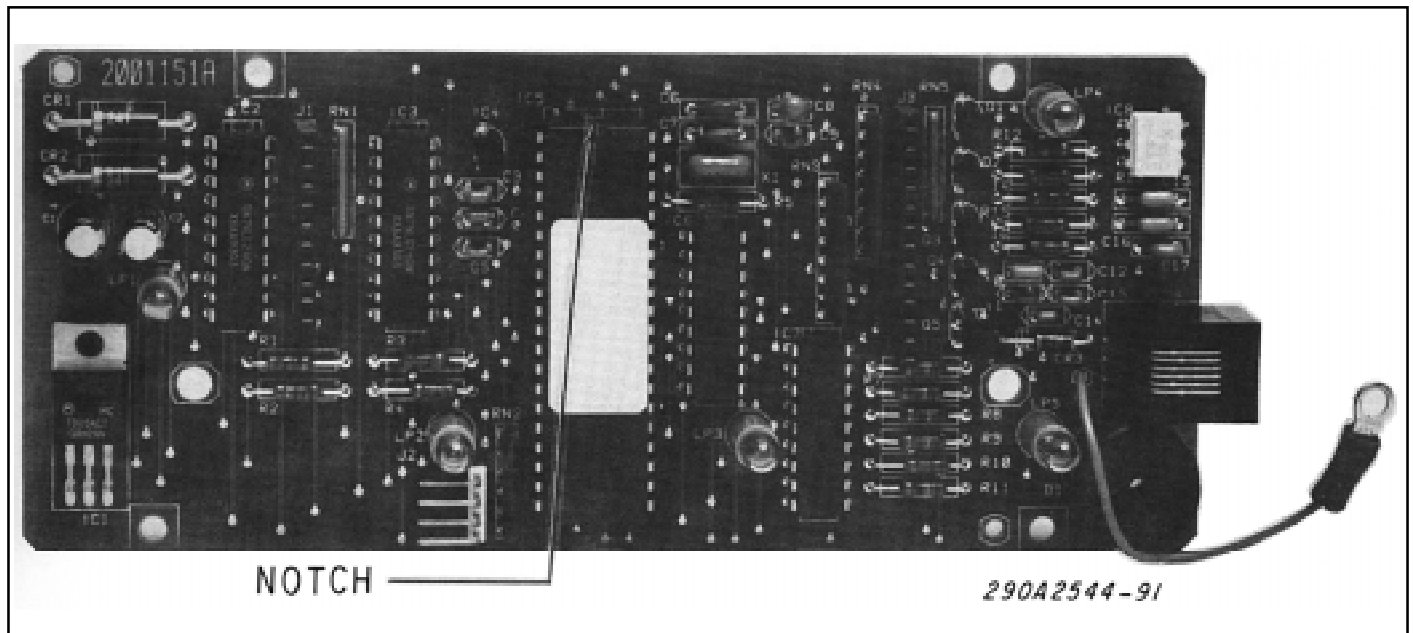

Figure 3-1. Control Head Microprocessor.
3. See figure 3-1. Insert the new microprocessor IC ("CP" in the part number) in the empty socket. Ensure that the notch on the new microprocessor IC is facing the same direction as the old one (near IC4) and that all IC pins are properly inserted in the socket—not bent under.